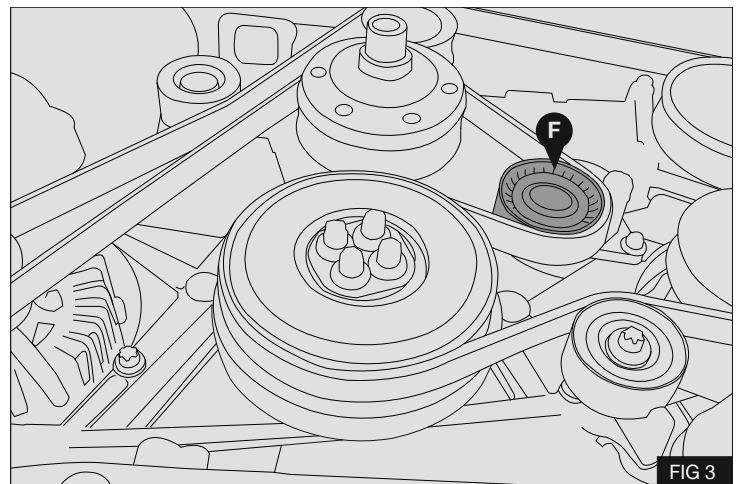
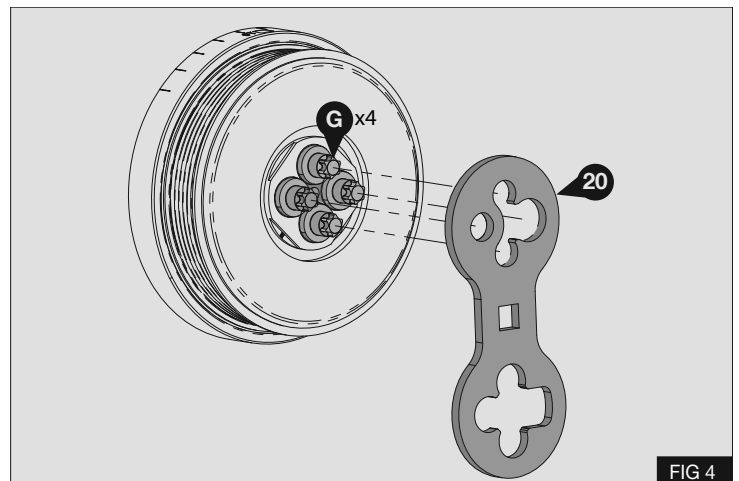

FIG 3
FIG 4
3. Using a suitable tool rotate the automatic belt tensioner pulley (F) clockwise and insert a 4mm pin to lock the tensioner open. Remove and retain the original drive belt, note the direction of rotation and the routing of the original belt - Fig 3
**Note:** - Do not turn the engine counter clockwise during the crank bolt loosening / tightening procedure. Tool (20) has different profiles for loosening / tightening.
4. Using the supplied tool (20) as a counter-hold loosen each of the original crankshaft securing bolts (G) half a turn - Fig 4
5. Once all the bolts (G) have been loosened remove and discard the 4x bolts (G)